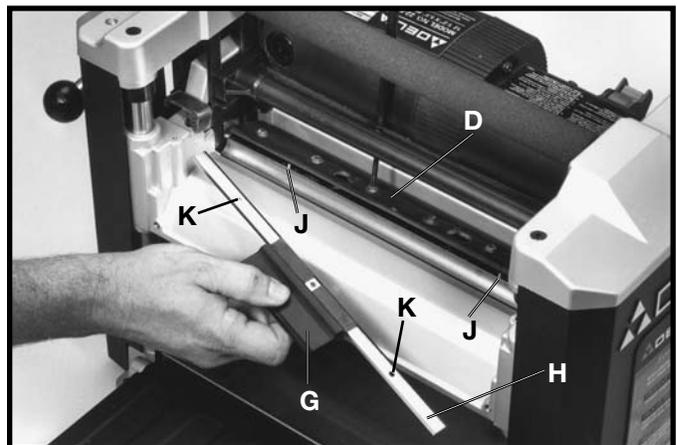

Fig. 32
9. Rotate knife (H) Fig. 32, end-for-end, or using a new knife, position knife transfer tool (G) on top of knife as shown. Place knife in cutterhead with bevel up underneath locking bar (D), making sure pins (J) in cutterhead engage with holes (K) in knife.